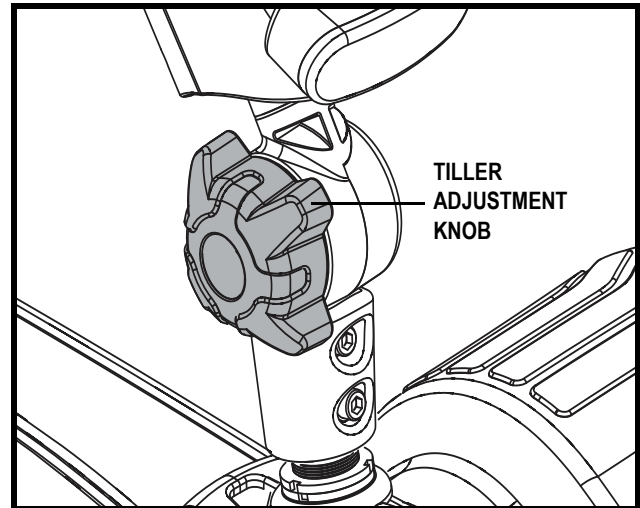

Figure 14. Tiller Adjustment
1. While supporting the tiller, turn the tiller adjustment knob anticlockwise to loosen the tiller. See **figure 14**.